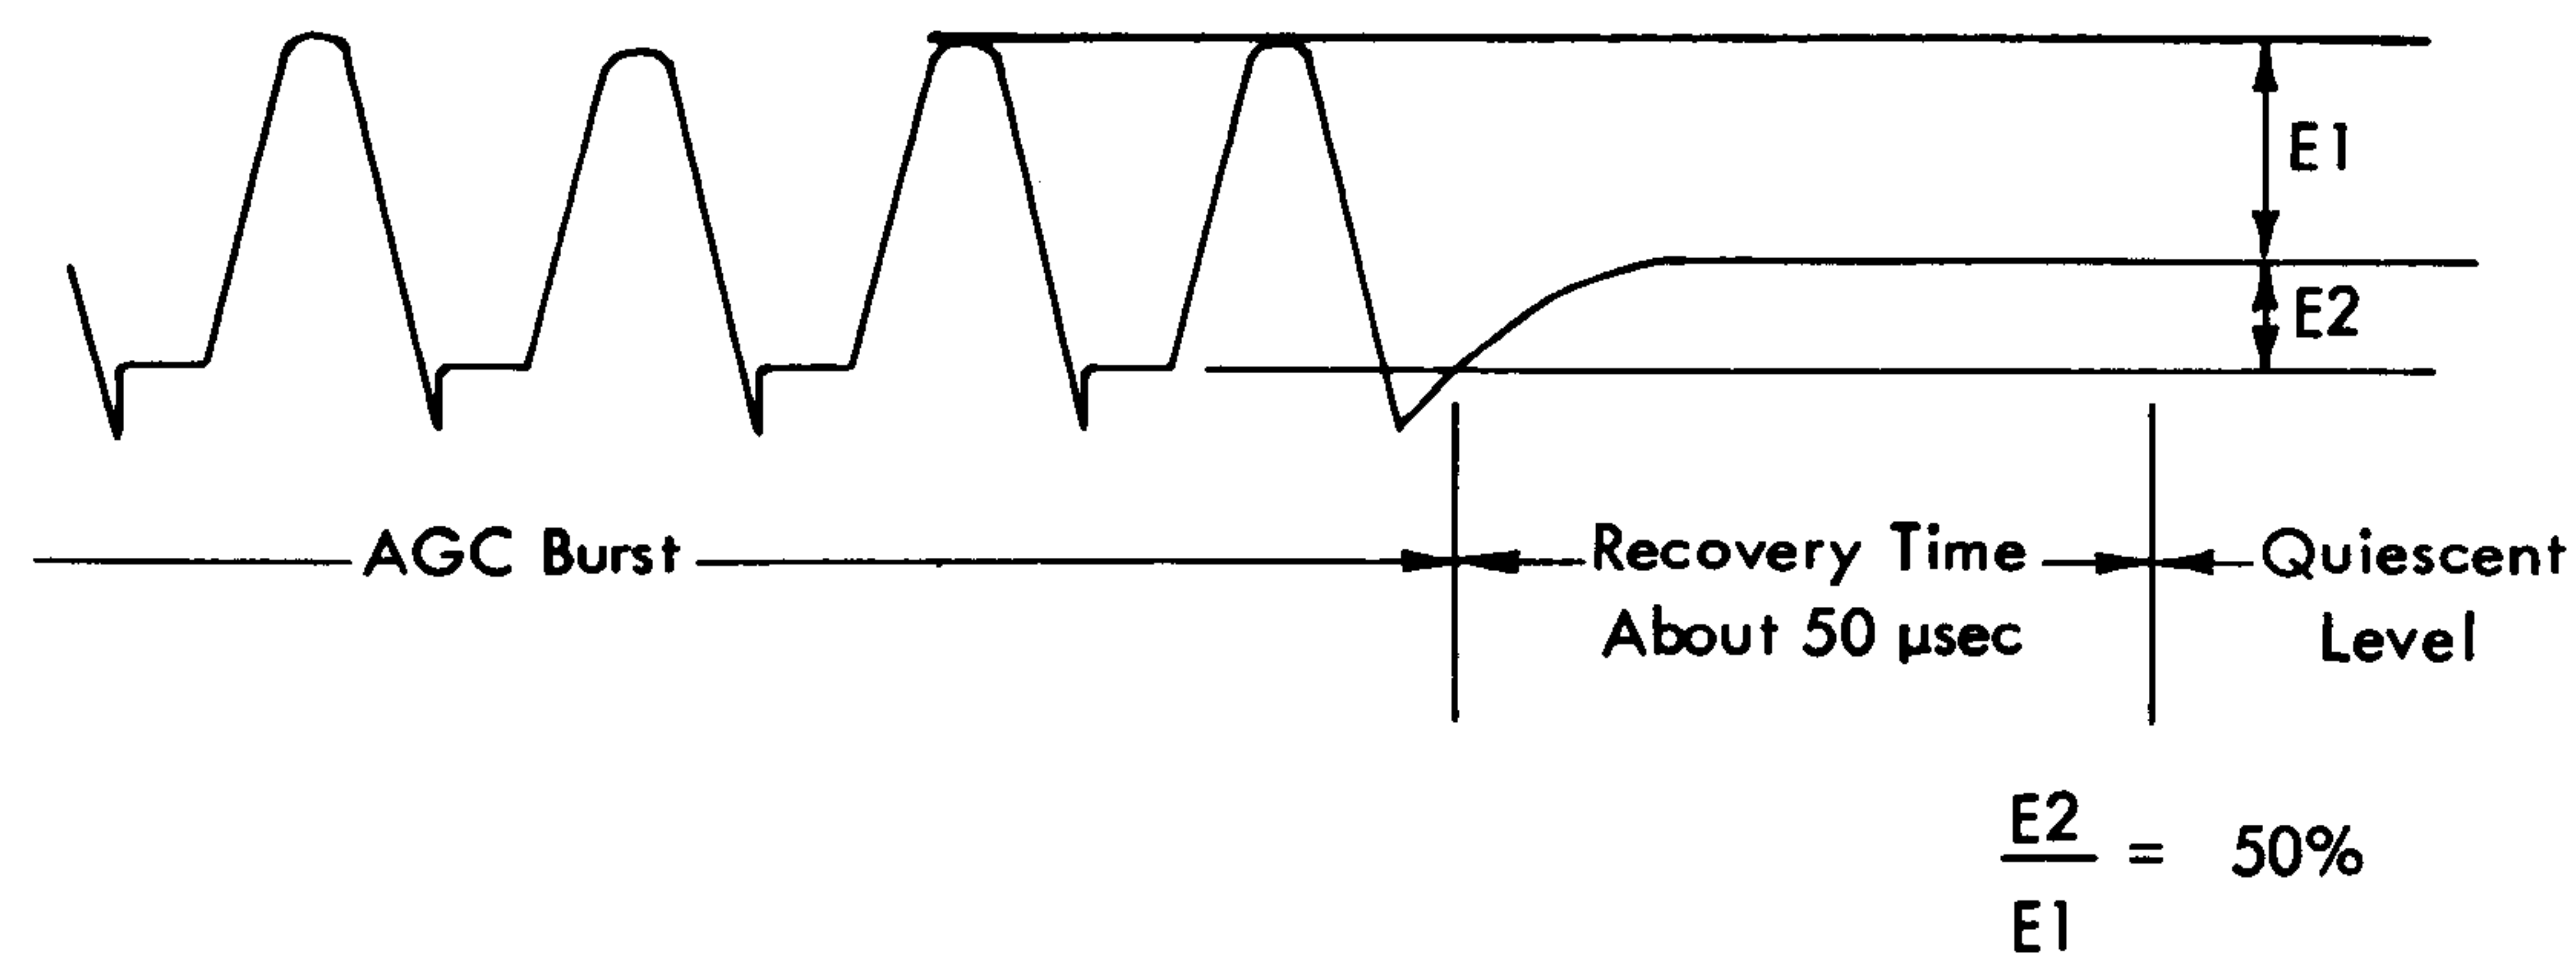

Figure 2-50. Read Amplifier Clipping Level
4. Observe pin A of the OR-AND (ANW-) at 01A5B18 and, by means of the potentiometer on this card, adjust the clipping level to 50% (Figure 2-50).
NOTE: This ratio (2-1) is easily accomplished by maintaining E_2 (Figure 2-50) at a constant vertical deflection of one cm (by means of the oscilloscope variable voltage control) and adjusting the potentiometer on the OR-AND (ANW-) to obtain a vertical oscilloscope deflection of two cm for E_1 .